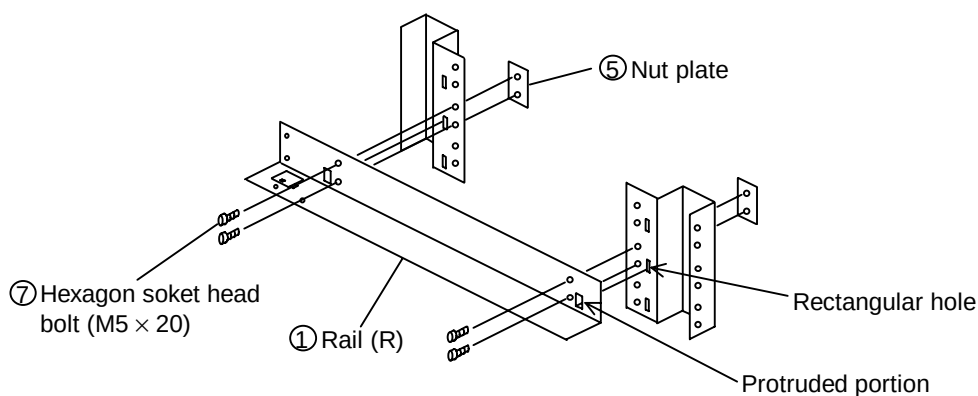

Figure 3.4.3 Securing the Rail to the Rack Frame
- (2) Insert the protruded portions of the ① Rail (R) into the rectangular holes on both the front and rear sides of the rack frame at right hand side of the desired installing position. (See Figure 3.4.3.)
- (3) Position the ⑤ Nut plates (for securing rails aligning their holes with the holes of the rail) and the rack frame and secure the ① Rail (R) with two ⑦ Hexagon socket head bolts (M5 × 20) (at two places each on the front and rear sides). (See Figure 3.4.3.)
- (4) Temporarily attach the ④ Stopper (L) to the ② Rail (L), and secure the ② Rail (L) to the rack frame in the same way.